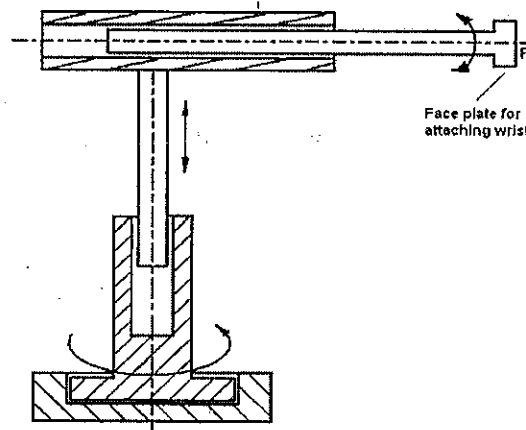

Fig. Q6
6. The Fig. Q6 shows a cylindrical robot. Draw its link coordinate diagram and construct the table showing the link parameters in order to find out the arm matrix using the principles of forward kinematics. 20